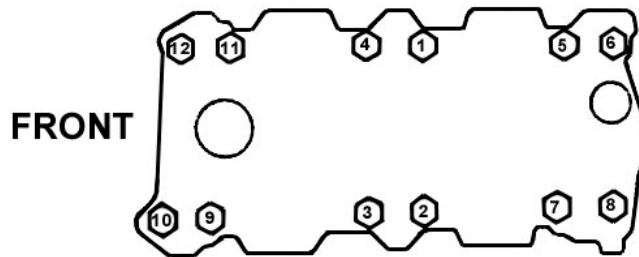

Figure 1
14. Tighten the bolts to 15 ft./lbs. and progress in 5 ft./lb. increments noting the torquing sequence in Figure 1. Retighten the valve cover.